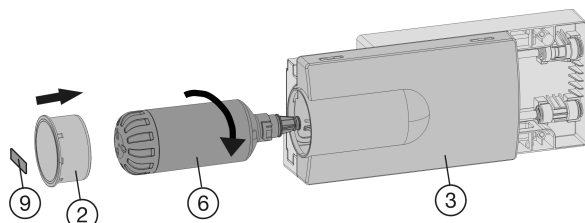

Fig. 40
- ▶ Place the tray cover *Fig. 40 (3)* into position.
- ▶ Remove the film from the water filter *Fig. 40 (6)*.
- ▶ Insert the water filter *Fig. 40 (6)* and turn it approximately 100° to the right until it locks into position.
- ▶ Place the cover on the filter *Fig. 40 (2)*.
- ▶ Write the date of the next filter replacement on the supplied adhesive label *Fig. 40 (9)* and affix it to the module.